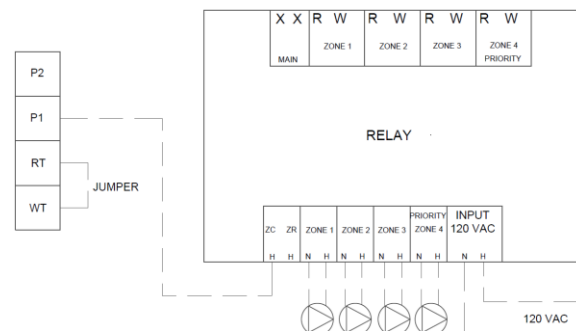

Figure 8 : Multiple pump system with all zones wired and free ZC ZR terminals (total current less than or equal to 5A)
For a multiple pump system with a switching relay box with all zones wired (Relay switch with ZC and ZR terminals, TACO type for example, see Figure 8):
- Install a pump relay (such as Honeywell RA832 or TACO SR501-4) near the auxiliary boiler. (see fig.8)
- Connect the "TT" of the auxiliary boiler on the "XX" relay RA832 terminals (see fig.5) or 6-5 of the relay TACO 501-4 (see fig.8)